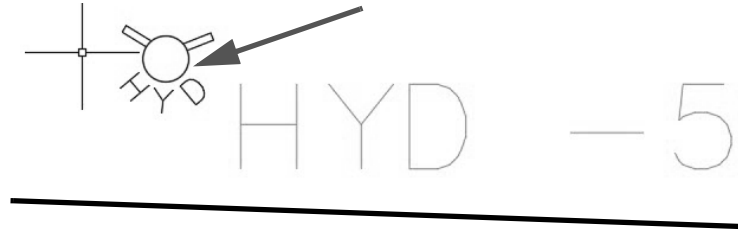

Figure 2–56
11. In the HYD row, change the *Format* from \$\* to **Hydrant**, as shown in Figure 2–57.